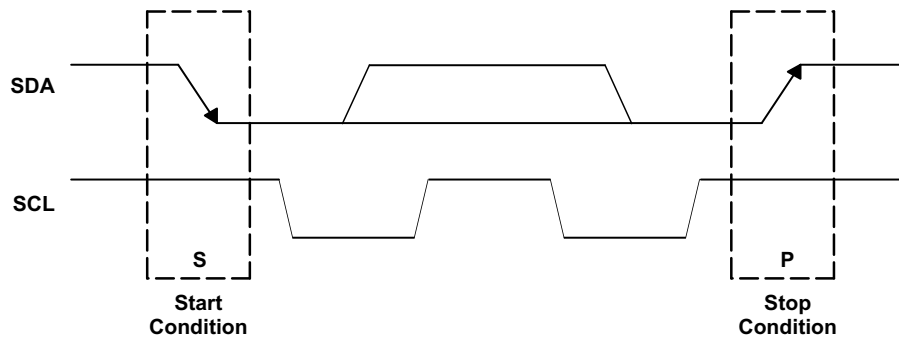

Figure 58. I²C Start and Stop Conditions
The basic I²C start and stop access cycles are shown in Figure 58.
- The master initiates data transfer by generating a start condition. The start condition exist when a high-to-low transition occurs on the SDA line while SCL is high, as shown in Figure 58. All I²C-compatible devices should recognize a start condition.
- To signal the end of the data transfer, the master generates a stop condition by pulling the SDA line from low to high while the SCL line is high (see Figure 58). This releases the bus and stops the communication link with the addressed slave. All I²C compatible devices must recognize the stop condition. Upon the receipt of a stop condition, all devices know that the bus is released, and they wait for a start condition followed by a matching address.